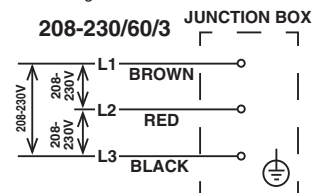

Fig. 8
4. Electrical connection must be made in accordance with the instructions on the "WARNING" tag, provided with the pig tail leads in the junction box. See Fig. 8.
- On three phase models, the transformer's voltage tap switch must be positioned to match incoming voltage at startup. See Fig. 8.